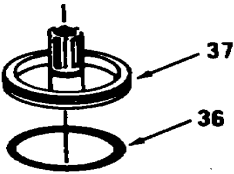

Figure 6-40.
- 16. Remove preformed packing (36) from piston (37, Figure 6-40). Discard preformed packing (36).